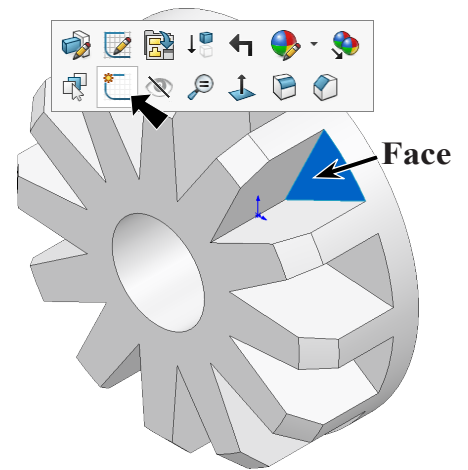
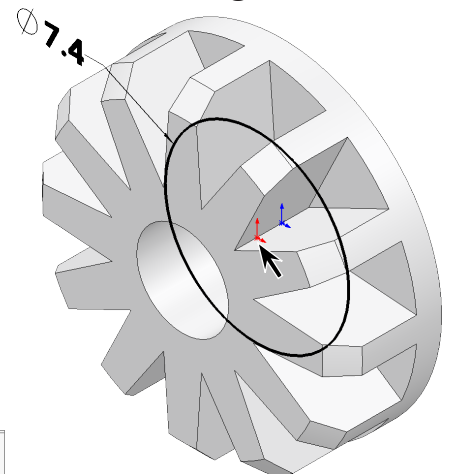

Fig. 19
Fig. 20
Step 1. Click the **front face of Extrude1** and click **Sketch** on the context toolbar, **Fig. 19**.
Step 2. Click **Circle**  (S) on the Sketch toolbar.
Step 3. Sketch **circle at the Origin** , **Fig. 20**.
Step 4. Click **Smart Dimension**  (S) on the Sketch toolbar.
Step 5. Dimension **diameter 7.4**, **Fig. 20**.